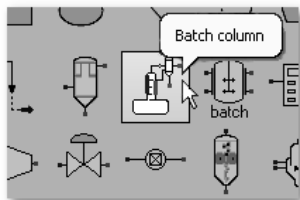

Figure 11-35: The icon representing a batch column
1. On the All UnitOps palette, click the **Batch column** tool (see Figure 11-35) and then click in the main CHEMCAD workspace. The batch column icon appears where you clicked.